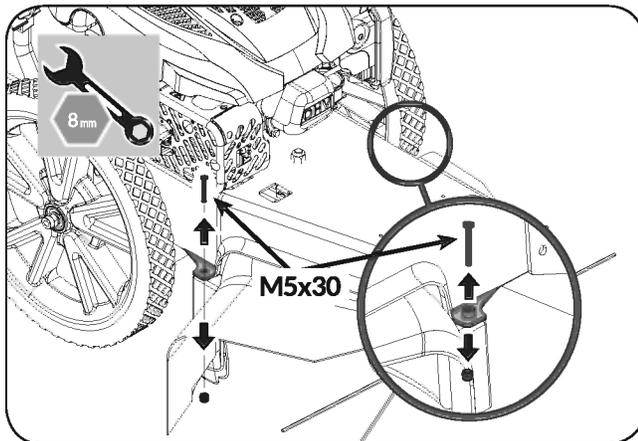

Figure 18
2. Remove the two M5x30 bolts and nuts that hold the rear of the mower deck to the main trimmer shield. (See **Figure 18**)